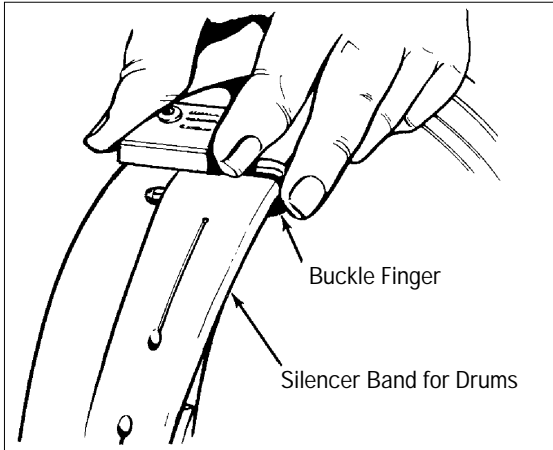

Figure 9 - Attach silencer band
3. Wrap the drum silencer band snugly around the drum. Be sure it covers up to the right-hand edge (figure 9).